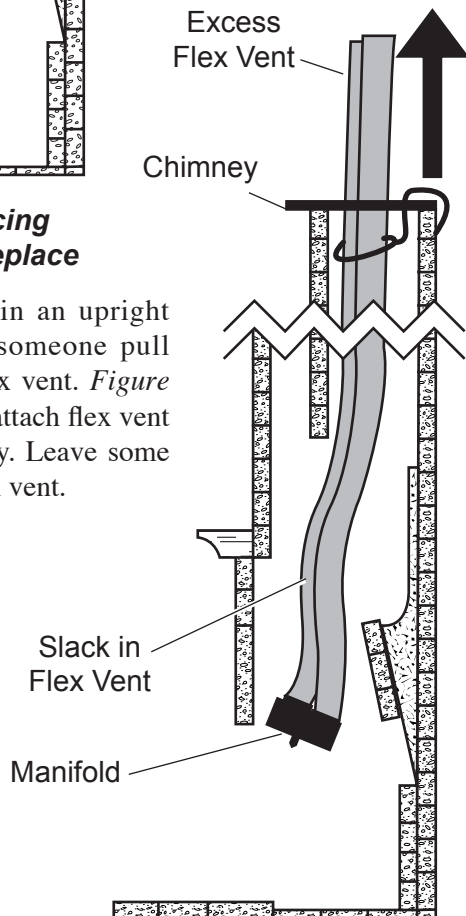

Figure 12 - Pulling On Excess Flex Vent
5. Place manifold in an upright position. Have someone pull on the excess flex vent. Figure 12. Temporarily attach flex vent to top of chimney. Leave some extra slack in flex vent.